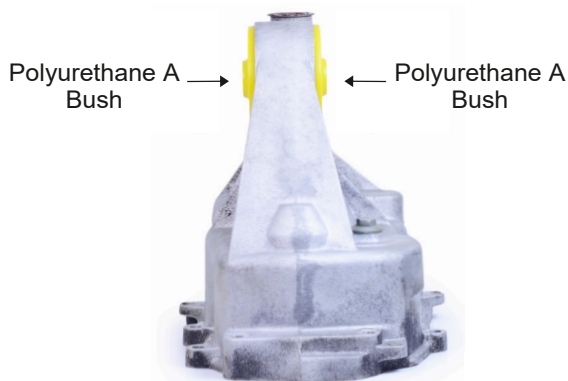

Figure 1: Fitted Assembly
2. Fit polyurethane A bushes into the bore of the mount. As shown in *Figure 1*.